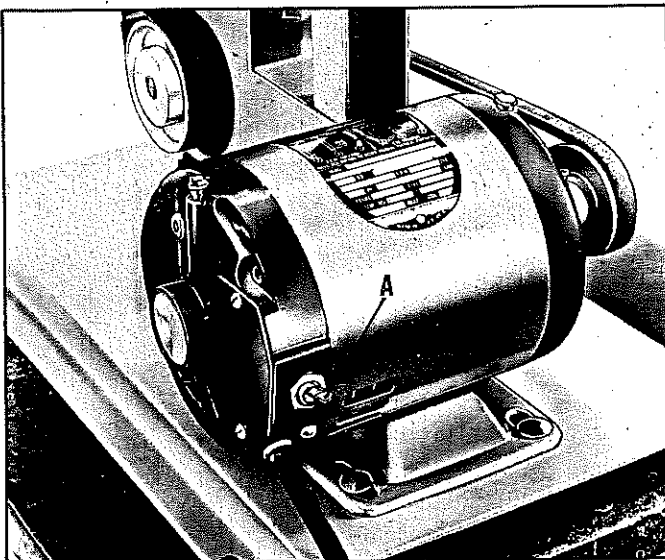

Fig. 3.
A toggle switch (A) Fig. 3, is provided on the rear of the single phase motor recommended for use on your Sander/Grinder. When the machine is used with the 50-106 Steel Stand, Cat. No. 1330 Switch Rod, or the Cat. No. 49-385 Switch Box and Cable may be used.